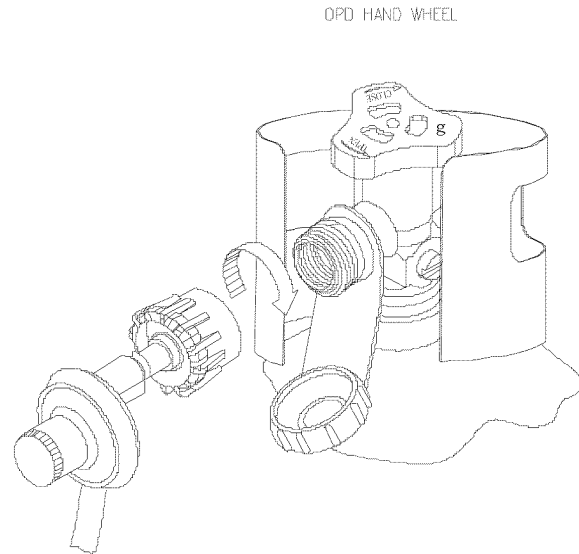

Figure 3.
3. Must have a UL-listed Overfill Protection Device (OPD). This OPD safety feature is identified by a unique triangular hand wheel (as shown in figure 3). **Only use LP tanks equipped with this type of valve.**
7. To connect the regulator assembly to the valve, hand tighten the quick coupling nut clockwise to the positive stop. (See figure 3.) Do not use a wrench to tighten. Using a wrench may damage the quick coupling nut and result in a hazardous condition.